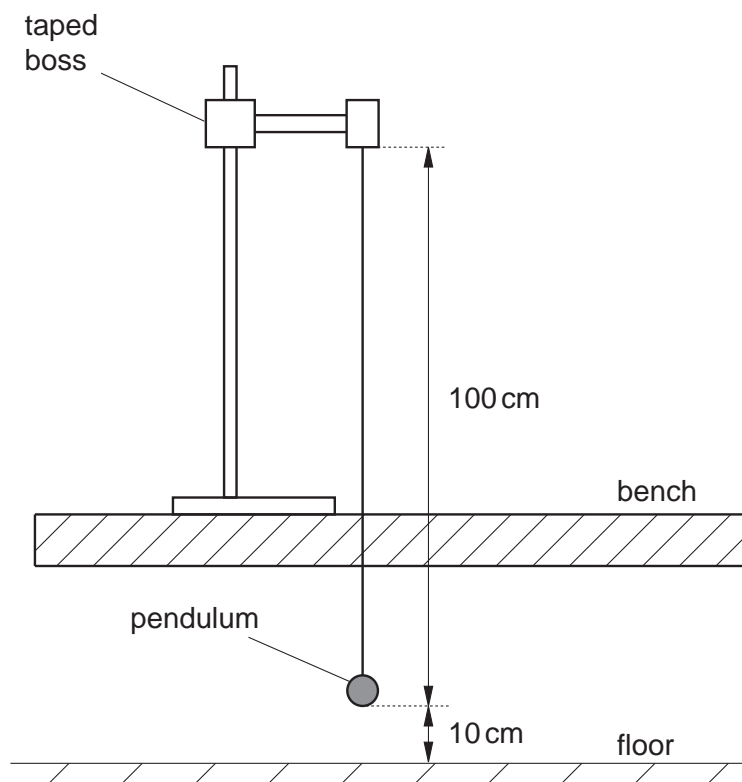

Fig. 1.1
1. The pendulum should be set up for the candidates with length 100 cm from the bottom of the split cork to the bottom of the pendulum bob. The bottom of the pendulum bob must be 10 cm above the floor, as shown in Fig. 1.1.